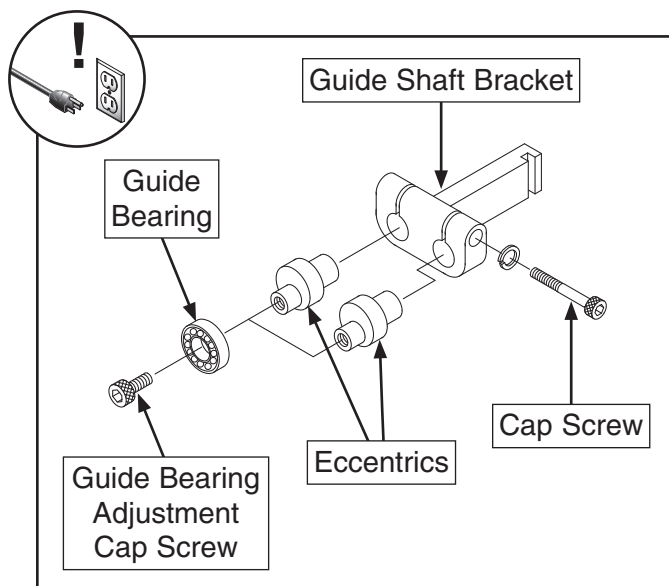

Figure 51. Blade support assembly.
3. Remove (2) guide bearing adjustment cap screws and guide bearings (see **Figure 51**).